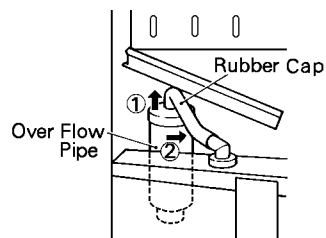

Fig. 12
- 7) Remove the Rubber Cap covering the Overflow Pipe in the Water Tank. Remove the Overflow Pipe by turning it counterclockwise. Drain the Water Tank. See Fig. 12.
- 4) Remove the Rubber Cap covering the Overflow Pipe in the Water Tank. Remove the Overflow Pipe by turning it counterclockwise. Drain the Water Tank. See Fig. 12.
- 5) Remove the Rubber Cap covering the Overflow Pipe in the Water Tank. Remove the Overflow Pipe by turning it counterclockwise. Drain the Water Tank. See Fig. 12.